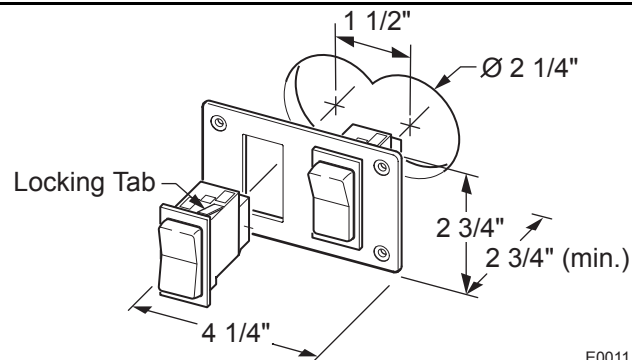

Figure 7. Switch Plate Installation.
7. *(Refer to Figure 7)* At the switch panel location, use a 2 1/4" hole saw and cut two holes 1 1/2" apart.